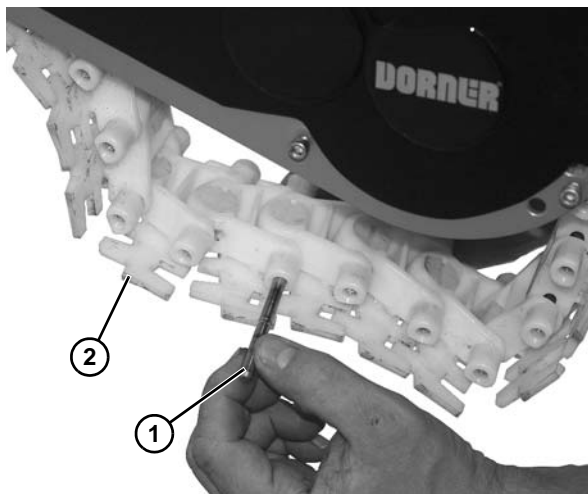

Figure 55
1. Use a punch and hammer or belt removal tool #203480 to push the belt rod (**Figure 55, item 1**) out by striking the rod end.
2. Slide the old belt (**Figure 55, item 2**) off the conveyor frame.